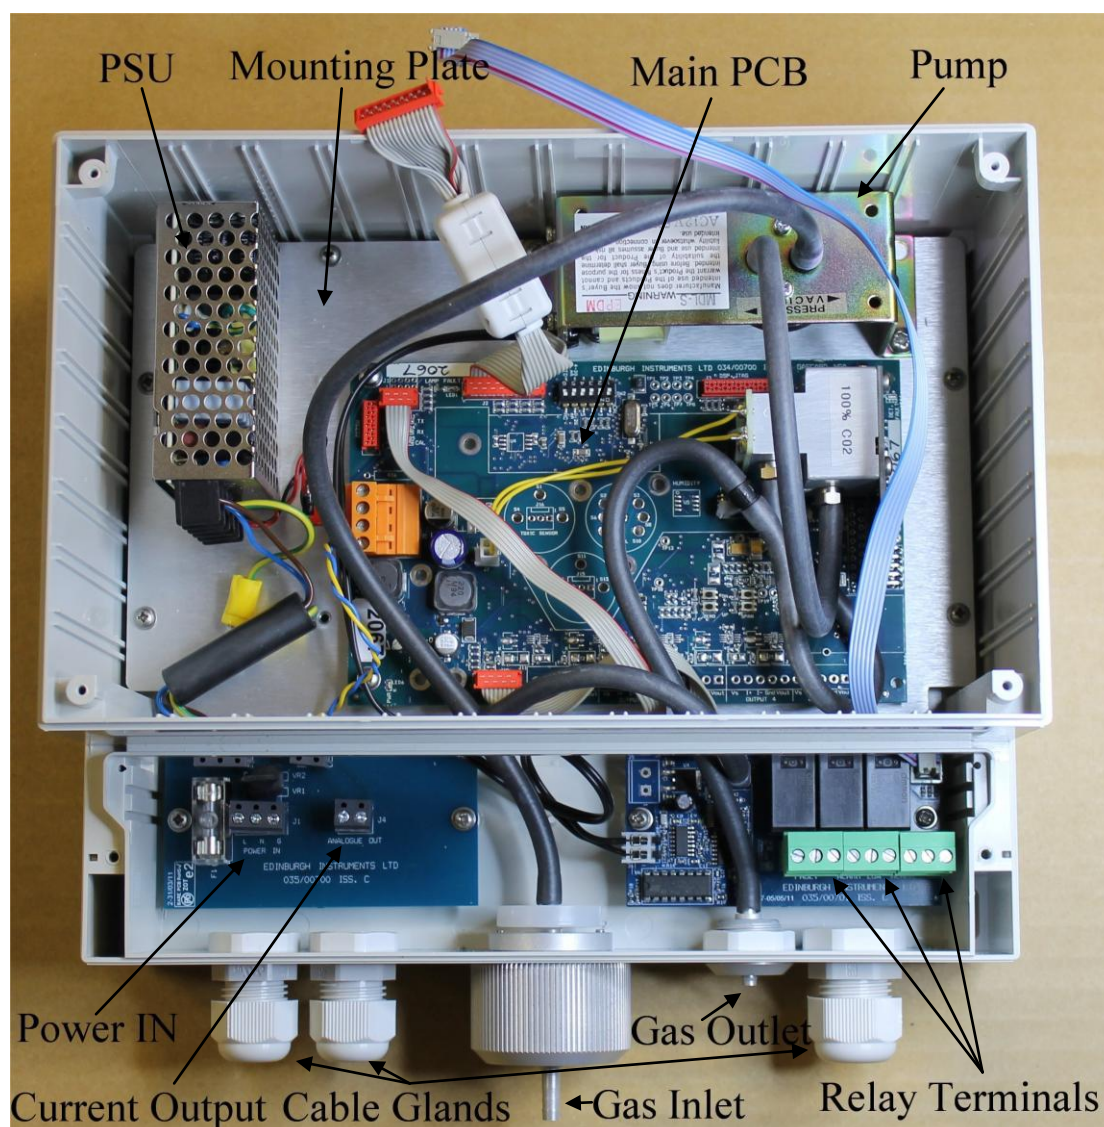

Figure 16: Guardian NG Internal View
- 9 i) Unscrew the knurled gas inlet/filter housing (Shown in Figure 16) to access to the particle filter capsule
Removal of the front panel allows access to the other PCB's sufficient to perform most service operations (primary fuse replacement, pump replacement, secondary filter replacement). For more major repairs, it may be necessary to remove the main mounting plate (see Figure 16).
There are two fuses in the Guardian NG; one is located on the main PCB (see Figure 16) and one on the Power supply PCB. When replacing the mains fuse, use only 20 mm, anti-surge fuses (indicated by the character T before or after the fuse rating). Other faster fuses may blow during switch-on. Fuse details
The pump is located on the Mounting Plate (Figure 16) and may be replaced as follows: